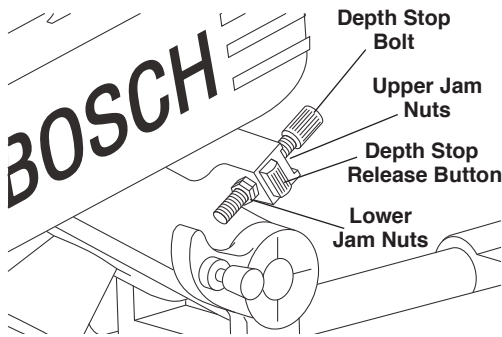

Figure 36. Cutting Grooves
1. For major adjustments, press the depth stop release button and slide the depth stop bolt to the desired location (Figure 36).